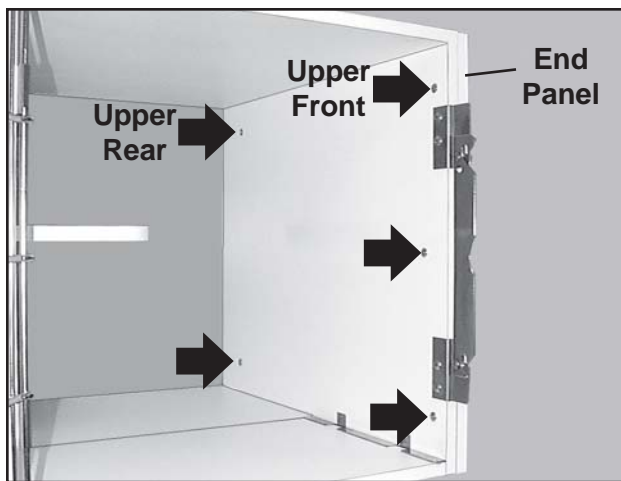

Figure 23. Mounting an End Panel - Cage Interior View
2. From inside the cage, place an internally-threaded stud through the upper front mounting hole (Figure 23).